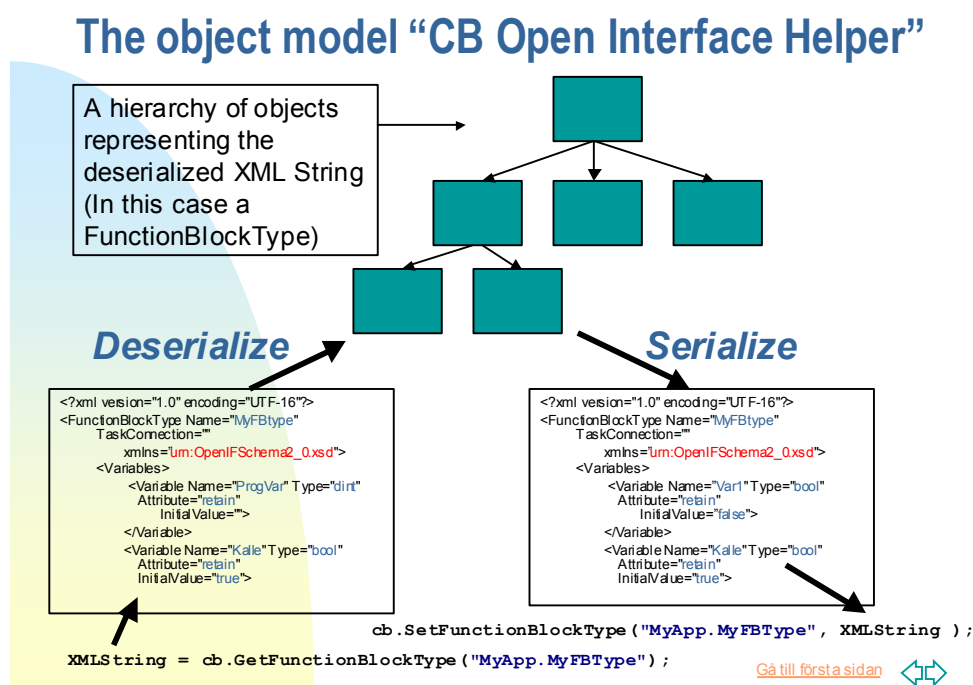

Figure1.
Figure 1 describes one typical usage of the object model and how it works together with the “CB Open Interface”
2. The object model is able to **deserialize** the XML String **to a hierarchy of objects**, see figure 1. The objects are created in the client’s memory and have well known names such as “FunctionBlockType”, “Variable”, “Parameter” and so on.